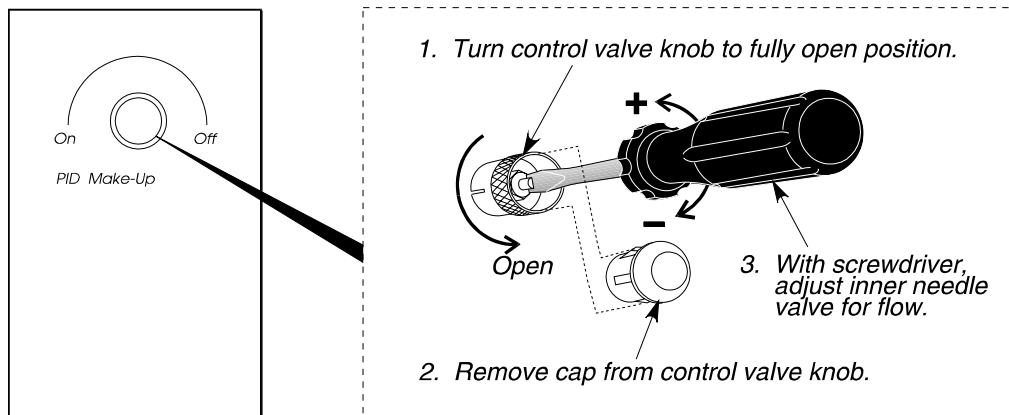

Figure 4-15. Make-up gas control valve for a manual pneumatics PID.
2. Turn off the make-up gas by turning the outer ring of the make-up valve fully clockwise (see Figure 4-15).